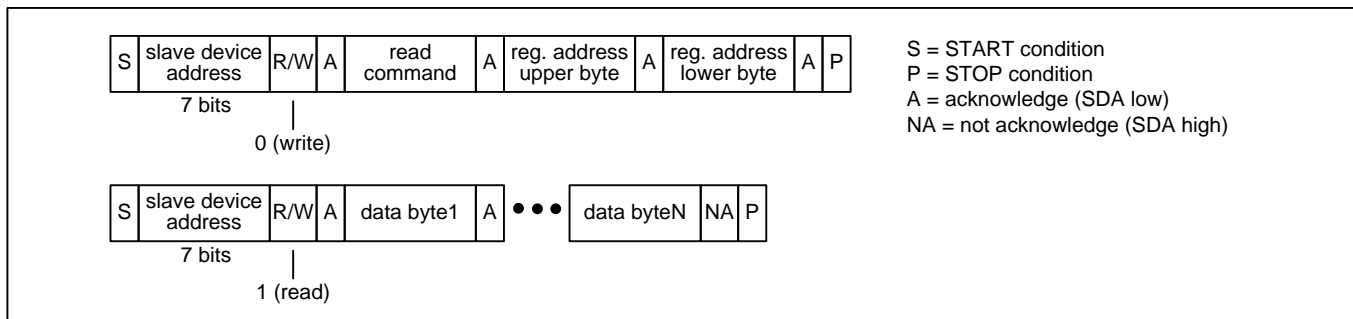
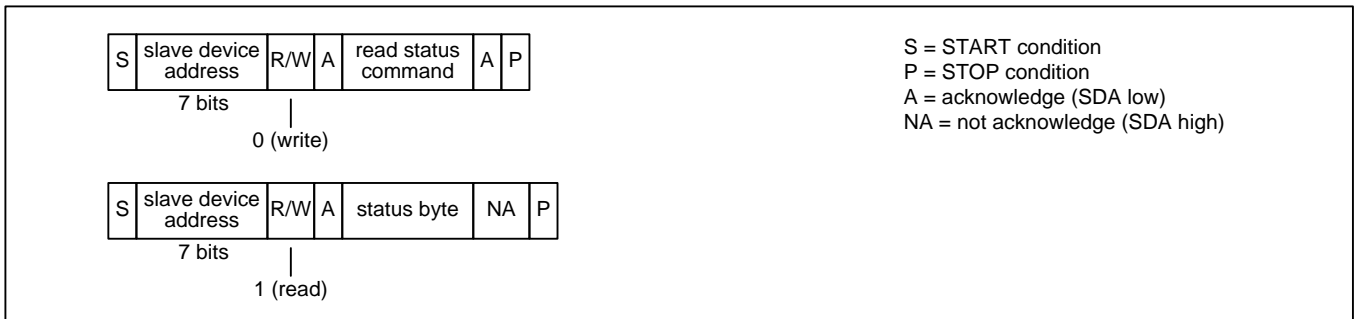

Figure 16 – I2C Read Transaction Functional Timing
Figure 19 – I2C EEPROM Read Status Transaction Functional Timing (ZL30253 Only)
**Read Transactions.** The device registers are accessible when **EESEL=0**. On a ZL30253 the internal EEPROM memory is accessible when **EESEL=1**. On ZL30252 **EESEL** must be set to 0. The bus master first does an I2C write to the device. In this transaction three bytes are written: the SPI Read command (see Table 4), the upper byte of the register address, and the lower byte of the register address. The bus master then does an I2C read. During each acknowledge (A) bit the device fetches data from the read address and then increments the read address. The device then transmits the data to the bus master during the next 8 SCL cycles. The bus master terminates the read with a not-acknowledge (NA) followed by a STOP condition (P). See Figure 16. Note: If the I2C write is separated in time from the I2C read by other I2C transactions then the device only outputs the data value from the first address and repeats that same data value after each acknowledge (A) generated by the bus master.
**EEPROM Read Status (ZL30253 Only).** The bus master first does an I2C write to transmit the SPI Read Status command (see Table 4) to the device. The bus master then does an I2C read to get the status byte. In this byte, the least significant bit is set to 1 if the transfer is still in progress and 0 if the transfer has completed. See Figure 19.
Note: In Figure 16 through Figure 19, a STOP condition (P) immediately followed by a START condition (S) can be replaced by a repeated START condition (Sr) as described in the I2C specification.